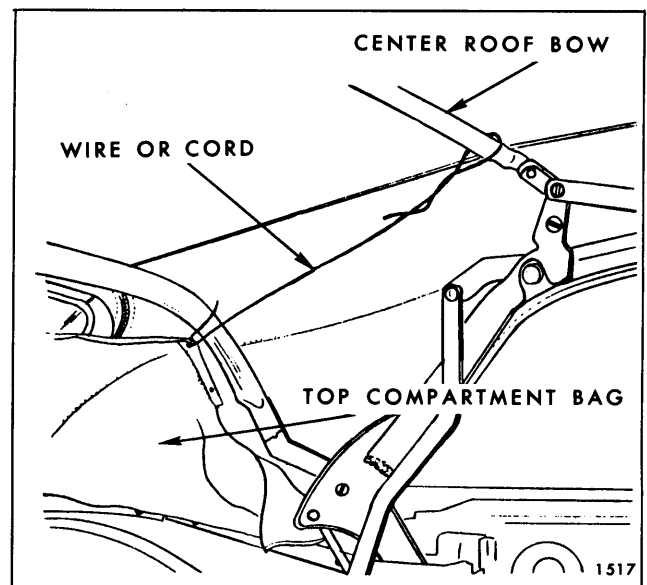

Fig. 13-41—Top Compartment Bag Tied To Center Rail
3. Detach folding top compartment bag from rear seat back panel, thus exposing rear quarter and rear trim stick attaching bolts. Forward end of top compartment bag may be tied or wired to center roof bow to provide ready access to attaching bolts (Fig. 13-41).